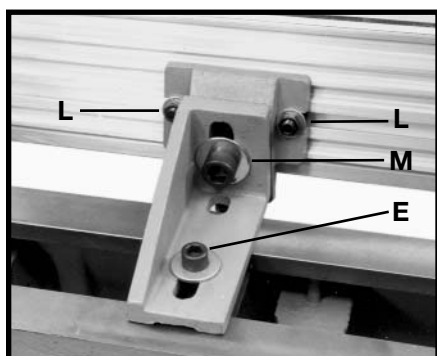

Fig. 26
6. Tighten two hex nuts (L) Fig. 26 and two hex socket head bolts (E) and (M).